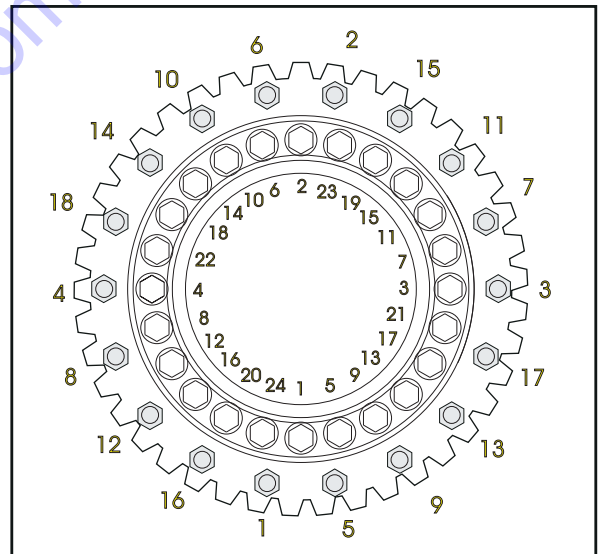

Figure 2-21. Swing Bearing Torque Sequence
2. Line up high spot (blue) of bearing with center tooth of worm gear. Set backlash to 0.008 - 0.010 inch (0.20 - 0.25 mm). Tighten capscrews as shown in Figure 2-21., Swing Bearing Torque Sequence.
7. Following the torque sequence diagram shown in Figure 2-21., Swing Bearing Torque Sequence, tighten the bolts to an initial torque of 175 ft. lbs. (237 Nm). Then following the same sequence, tighten to a final torque of 240 ft. lbs. (326 Nm).
12. Following the torque sequence shown in Figure 2-21., Swing Bearing Torque Sequence, tighten the bolts to an initial torque of 175 ft. lbs. (237 Nm). Then following the same sequence, tighten the bolts to 240 ft. lbs. (326 Nm).